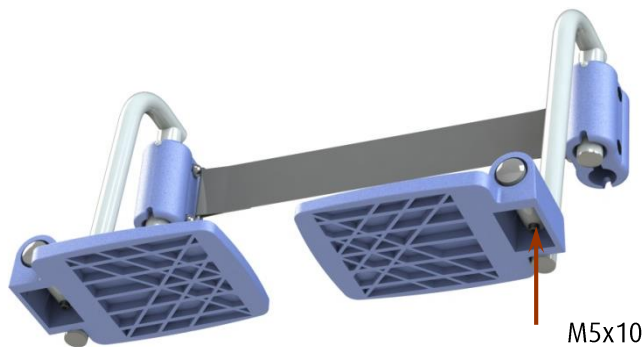

Figure 19 Foot rest
- Check M5x10 (bottom of plate), and replace stainless-steel bolts with ELVZ 8.8 bolts. (See figure 19)